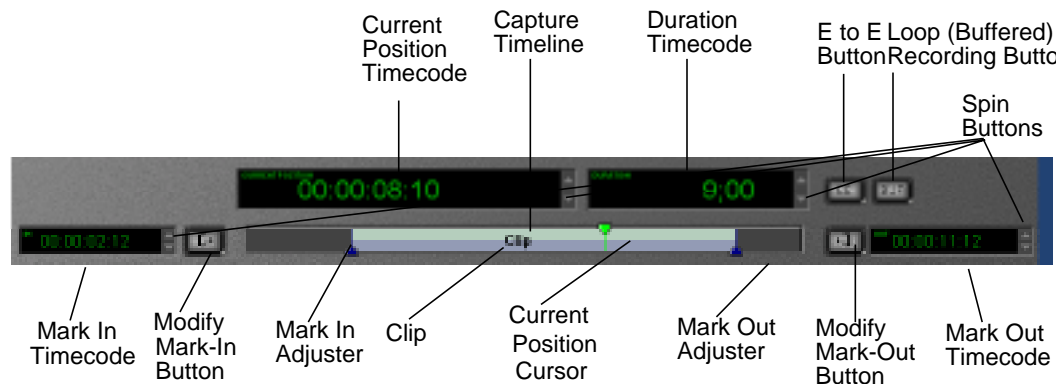

Figure 113. Capture timeline
- Drag the mark-in or mark-out cursors to a new position on the timeline (see the mark-in and mark-out cursors in Figure 113 on page 221).
- Adjust the in and out marks by entering the new timecodes in the boxes provided (see the timecode entry boxes in Figure 113 on page 221).